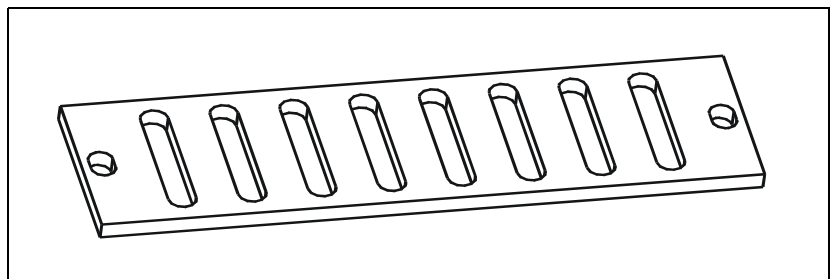

Figure 6-12. Shim
- If too low, then you can place shims (see Figure 6-12) under it.